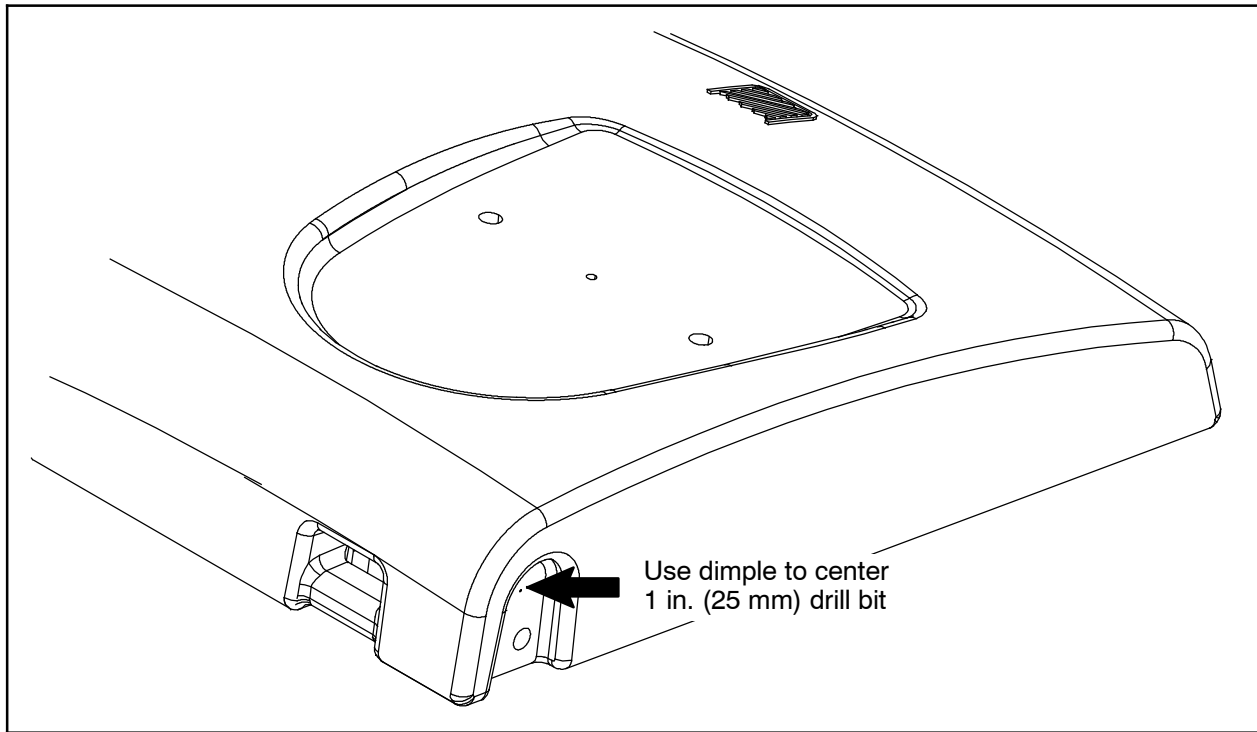

FIG. 12
22. Drill a 1 in. (25 mm) hole through the recovery tank cover. (Fig. 12/ Fig. 13)
23. Remove the plugs from the recovery tank cover and discard both plugs. (Fig. 12)